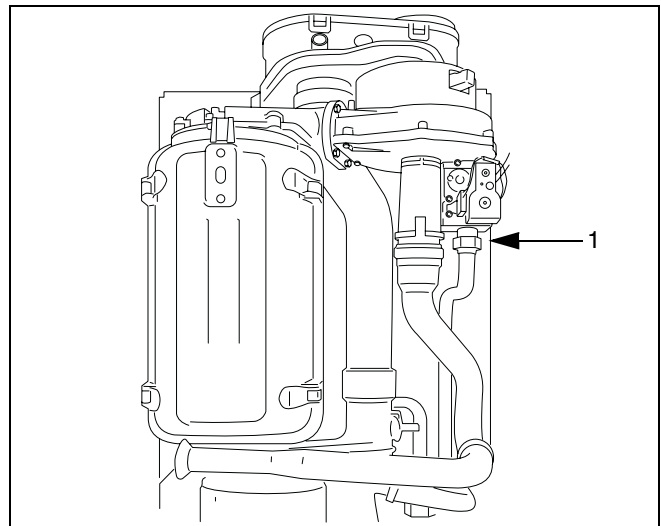

fig. 52 Loosen gas connection
- Loosen the gas connection between the gas supply and the gas air unit (→ fig. 52, item 1).